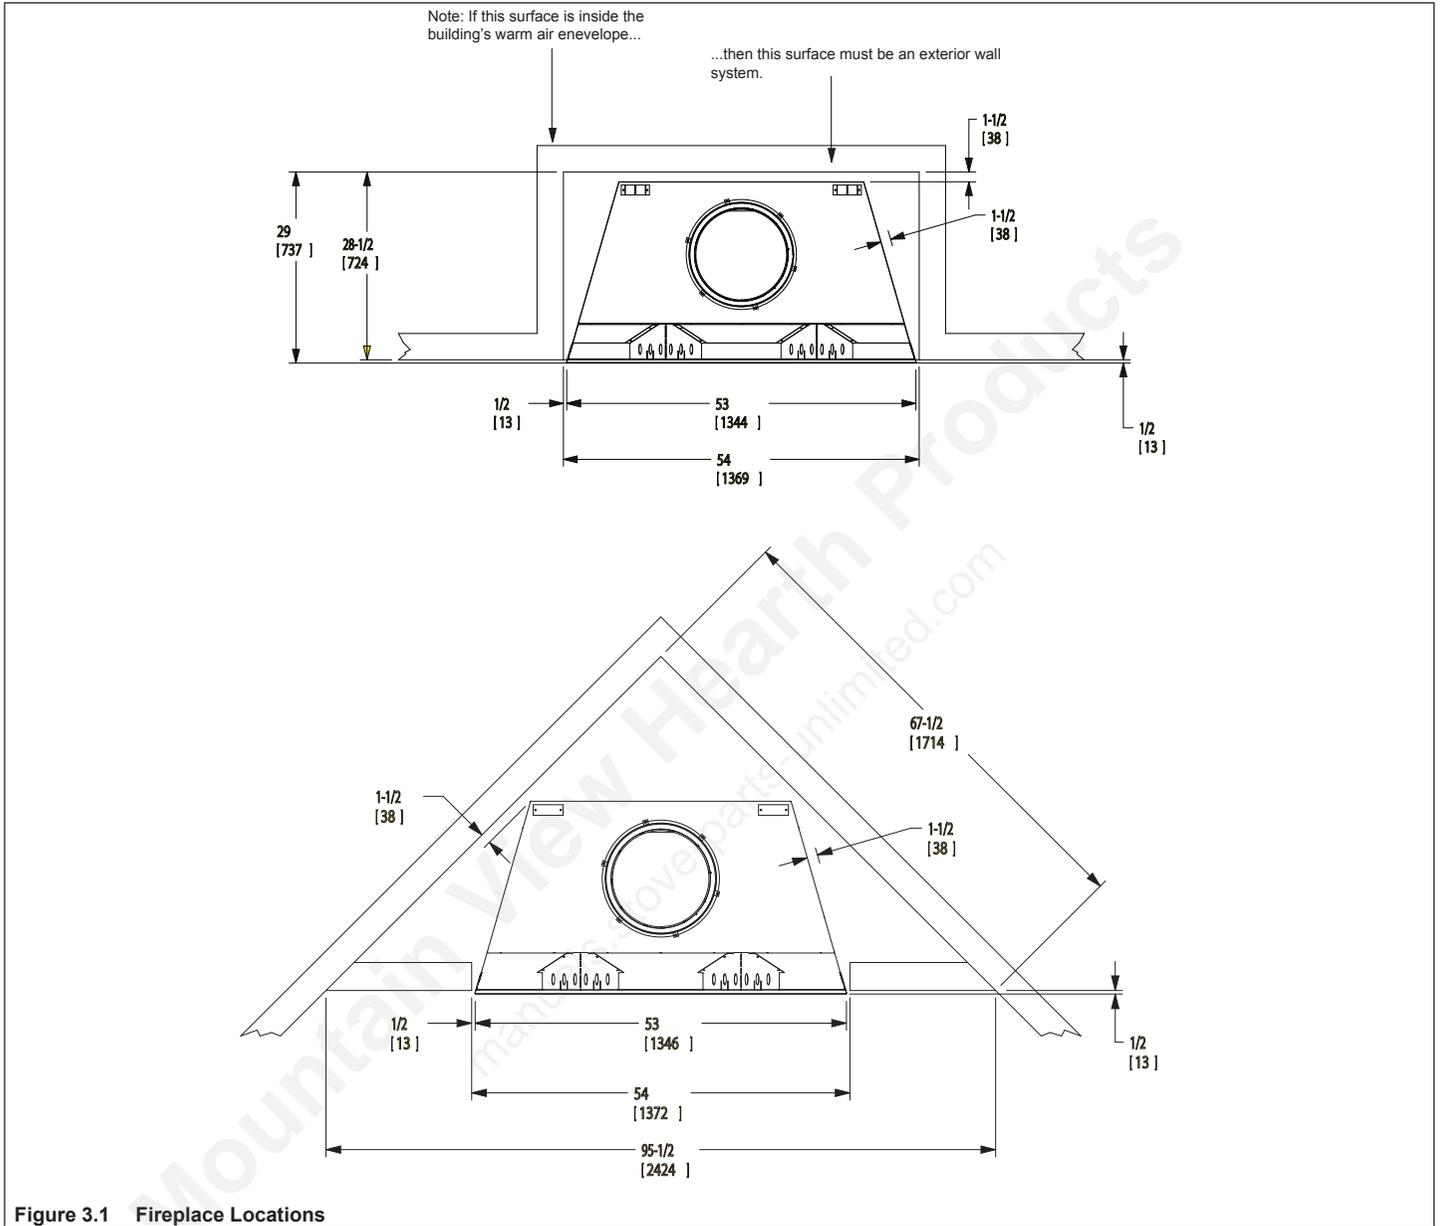

Figure 3.1 Fireplace Locations
- **Exterior Walls (see Figure 3.1)**